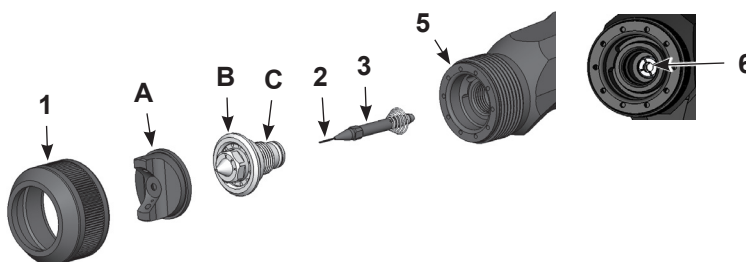

Figure 7-2 Air Cap, Fluid Tip, and Needle Replacement
3. See Figure 7-2. Unscrew the retaining ring (1) and remove it and the air cap (A) from the extension (5).